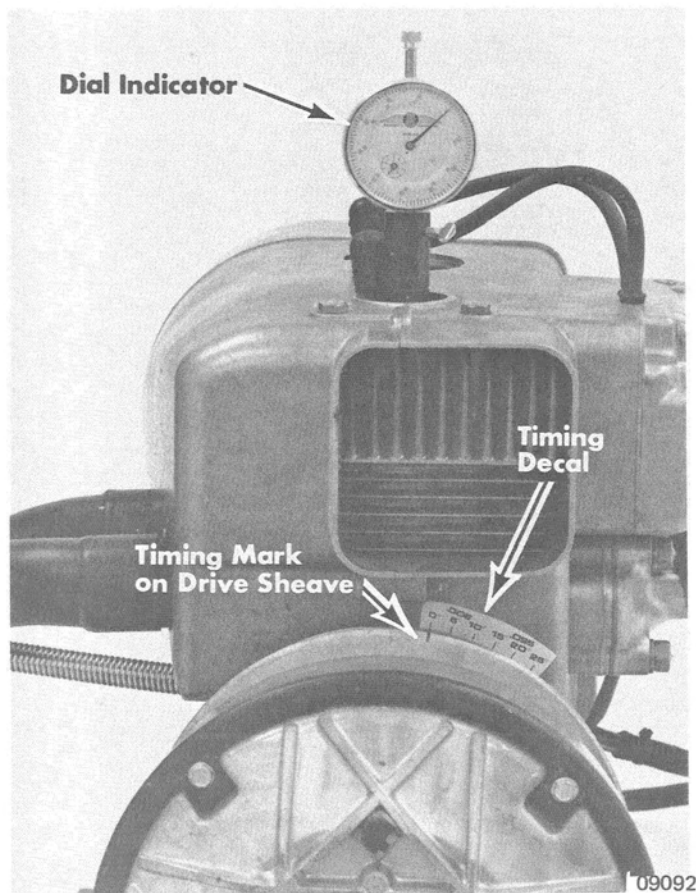

Figure 1. Dial Indicator and Timing Decal
3. Install Dial Indicator (C-91-58222A1) in No. 1 (PTO side) cylinder spark plug hole. (Figure 1)
5. With No. 1 piston at TDC, place a mark on edge of fixed face of drive sheave directly opposite 0° mark on timing decal. (Figure 1)